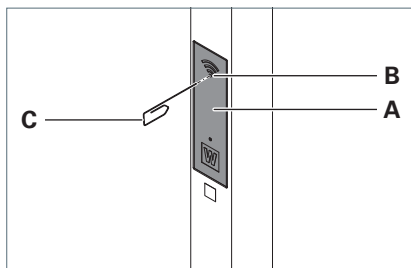

Fig. 1: Service flap.
- To unlock the service flap **A** on the pole, press a straightened paper clip **C** into the opening **B**, see Fig. 1.